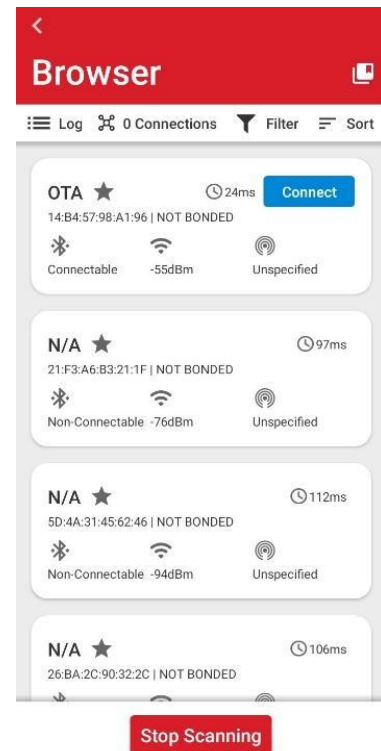

Fig. 5.9. “OTA” device
5) Press “**Connect**” to connect to the sensor (Fig. 5.9).